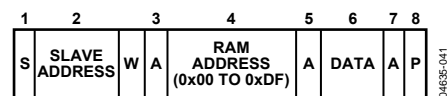

Figure 35. Single Byte Write to RAM
- To write a single byte of data to RAM. In this case, the command byte is the RAM address from 0x00 to 0xDF and the only data byte is the actual data, as shown in Figure 35.